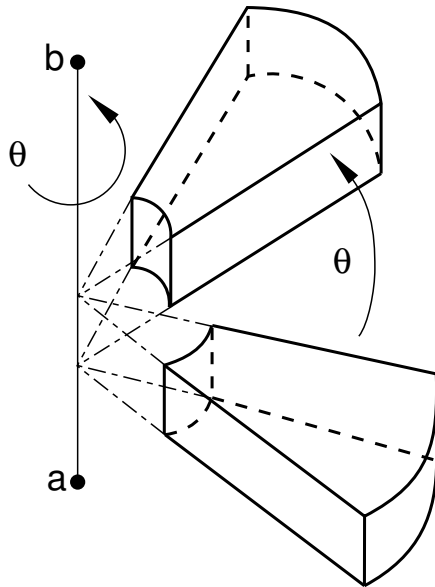

Figure 1: Rotation of an instance.
1. *X*-coordinate of point *a* on the axis of rotation (see Figure 1).